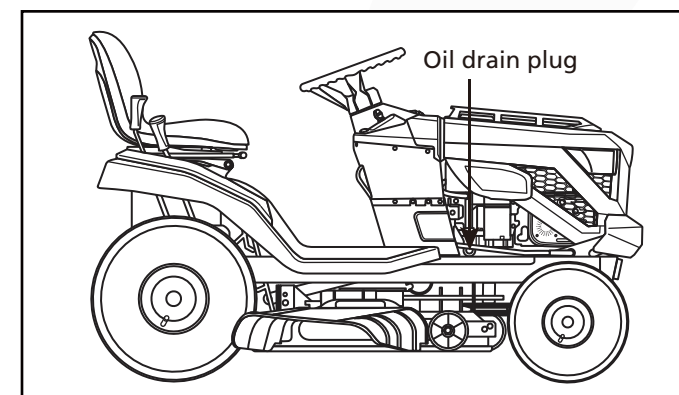

Fig. 32
1. Put the unit on a level surface as shown in Fig. 32.